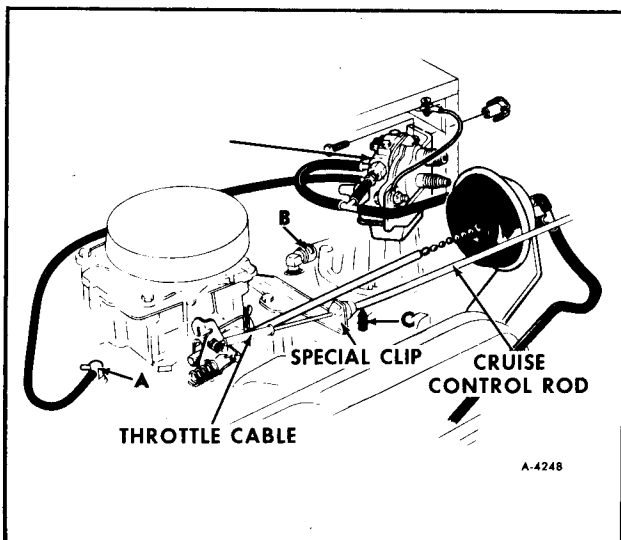
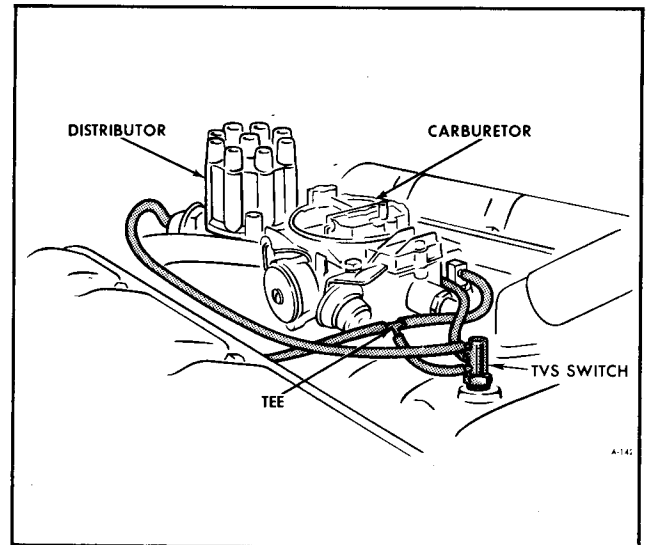

Figure 13—Location for Disconnecting Vacuum Hoses and Throttle Cable
Figure 14—Distributor and Transmission Vacuum Lines (Typical)
8. Disconnect throttle cable, and cruise control rod (if equipped) from carburetor throttle lever. (See figure 13). Remove cruise control rod.
10. Disconnect vacuum lines from the distributor and tee as shown in Figure 14. Disconnect vacuum line from the front of the carburetor which leads to the carbon canister. Referring to Figure 13, disconnect from the intake manifold—vacuum lines to the brake booster (B), heater control (C) and cruise control (A) (if so equipped).
7. Connect vacuum lines to the distributor and tee as shown in Figure 14. Connect vacuum line to front of carburetor (from the carbon canister). Connect to the intake manifold vacuum lines, to the brake booster, heater control and cruise control (if equipped). See Figure 13.
8. Connect throttle cable, and cruise control (if equipped). See Figure 13.